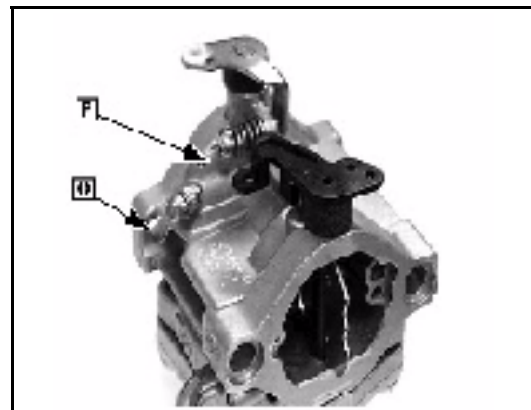

Fig. 145
12. Install idle mixture screw (O) with spring and the idle speed screw ([P] Fig. 145) with spring.